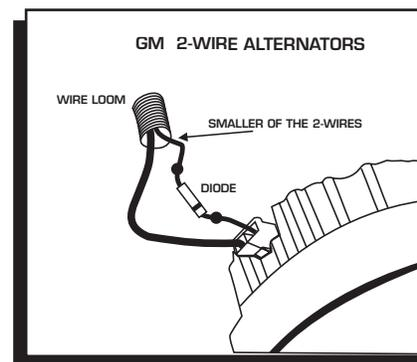

Figure 9 Installing the Diode to a 1973-1983 GM Vehicle.
**GM:** Delcotron Alternators use an internal voltage regulator. Install the Diode in-line on the smallest wire exiting the alternator (Figure 9). It is usually a Brown wire.